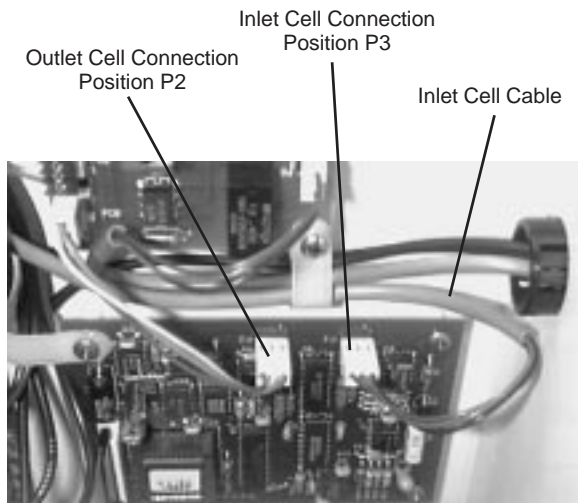

Figure 10 Inlet Cell Cable Connection to Circuit Board
7. Locate the outlet cell connection on the circuit board (see figure 10) and remove the outlet cell connection at position P2.